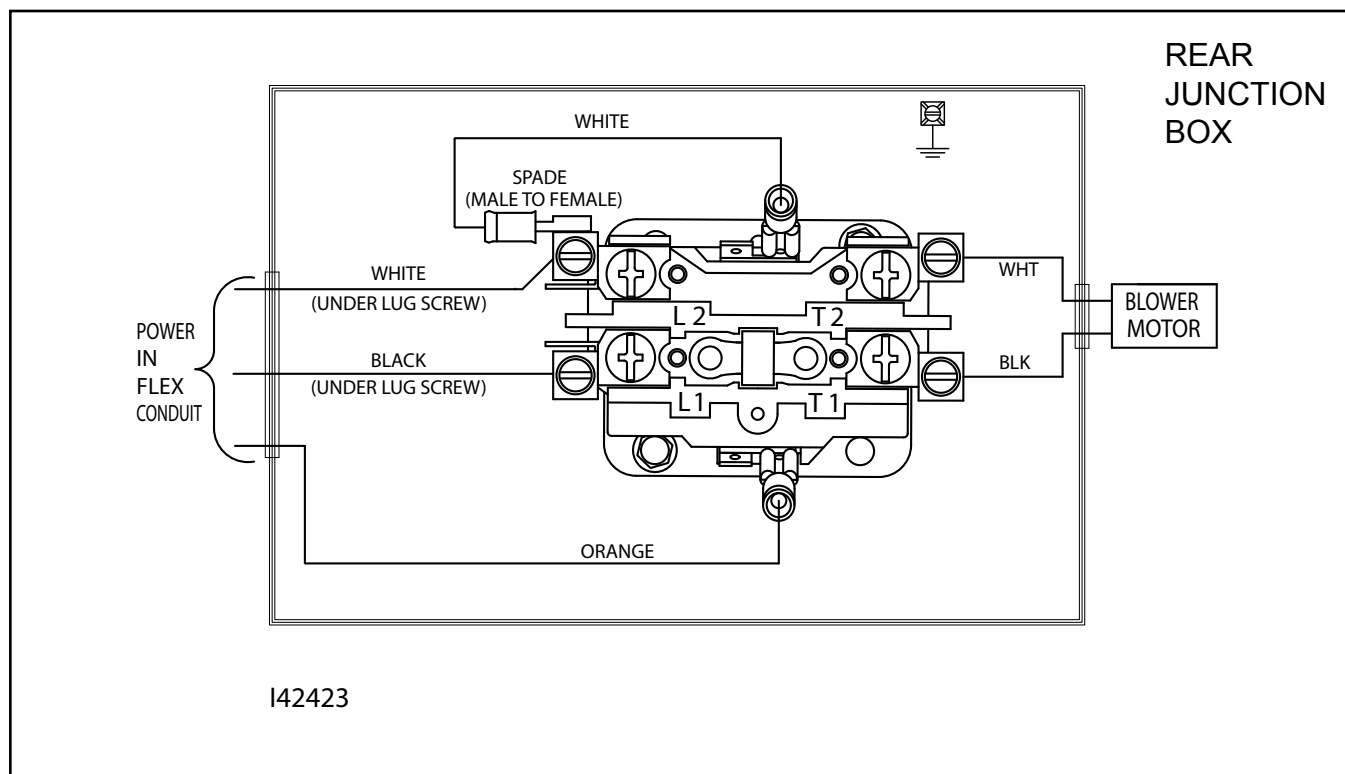

Figure 3E - Detail of Blower Motor Wiring for CB-2500
3. **For CB-2500 furnaces (see Figure 3E):**